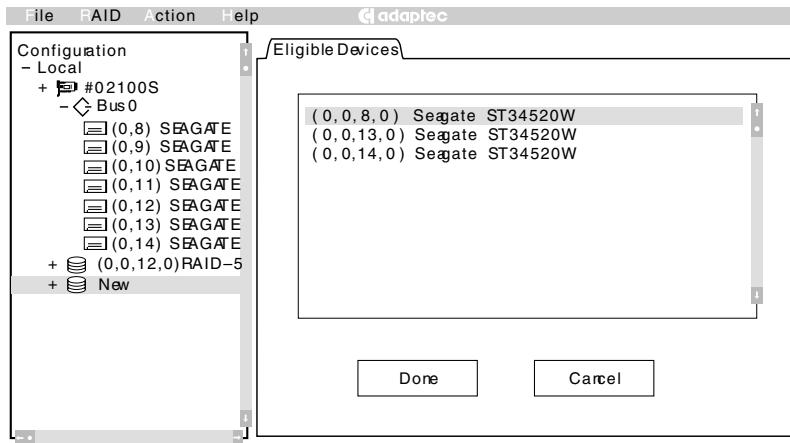

Figure 2-16. Eligible Devices Tab
- b** The Eligible Devices tab appears, as shown in Figure 2-16. The list of eligible devices can be either individual hard drives or previously created array groups. Array groups appear in the list when you select RAID 0 and eligible array groups exist.